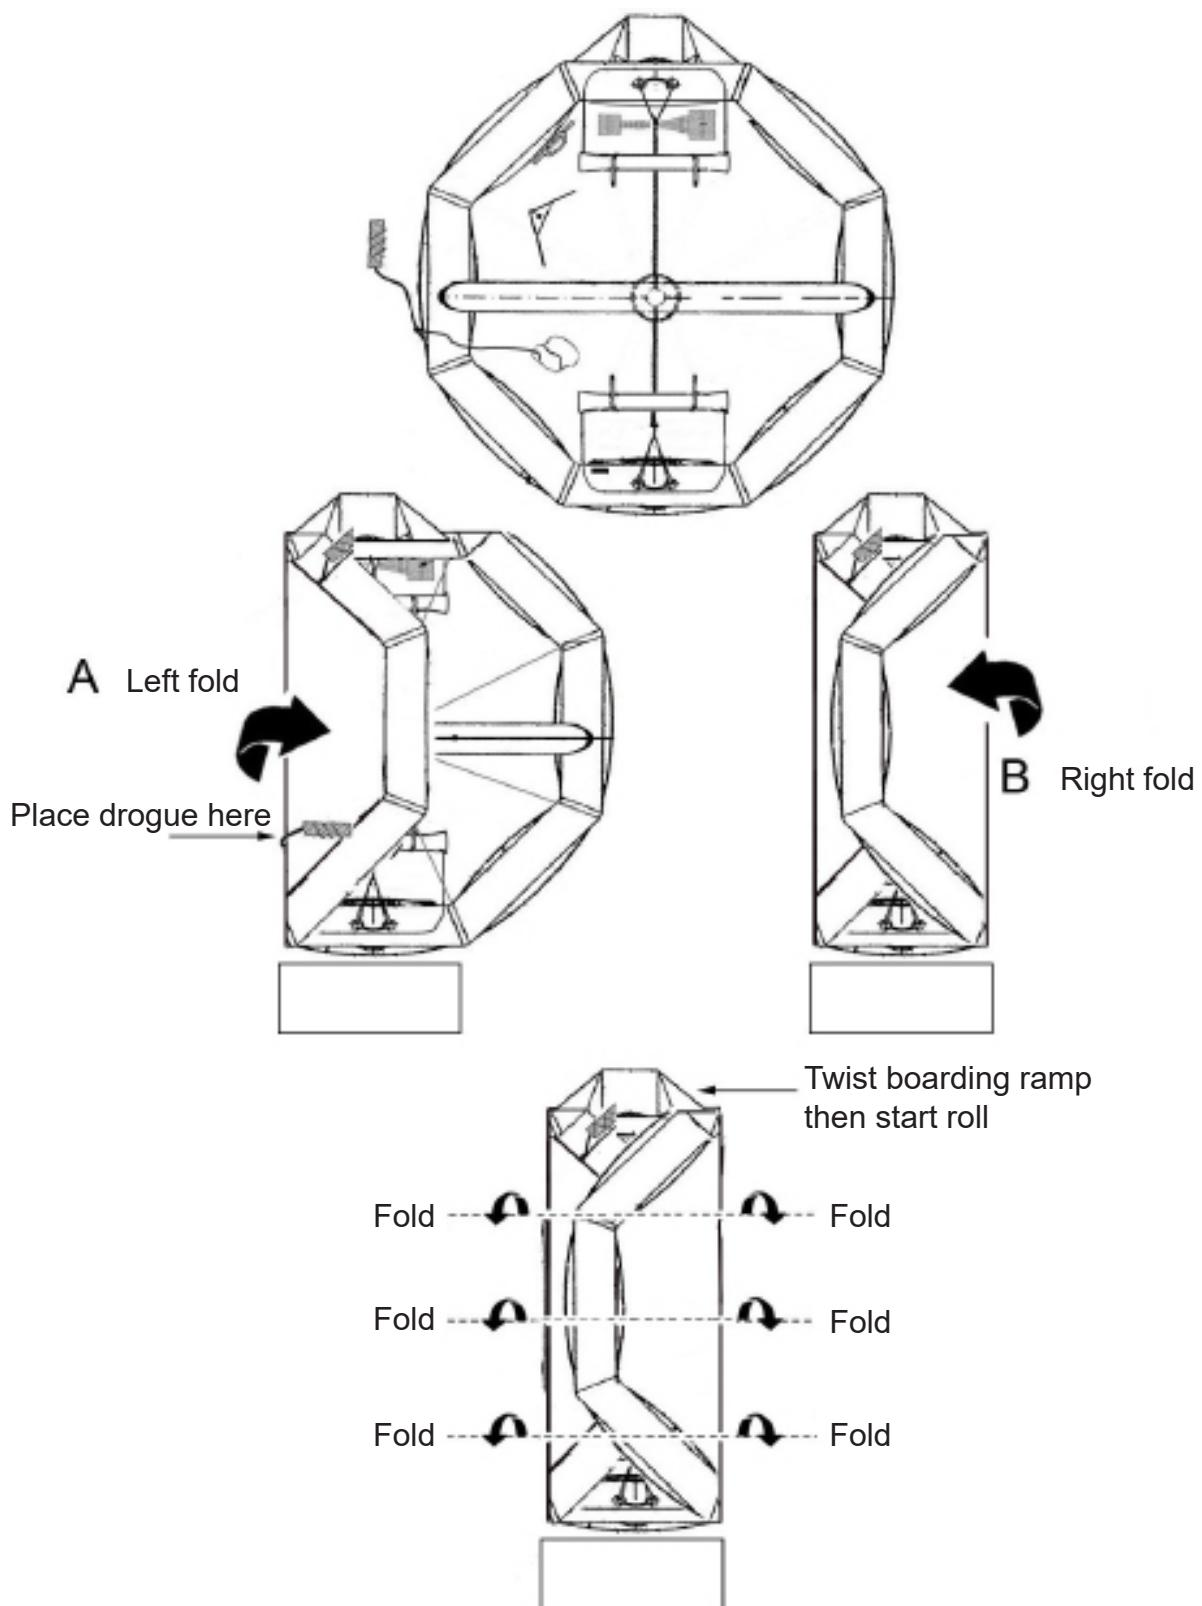

FIGURE A7-22
2.46.4 Flat-Pack container; Refer to FIGURE A7-22.